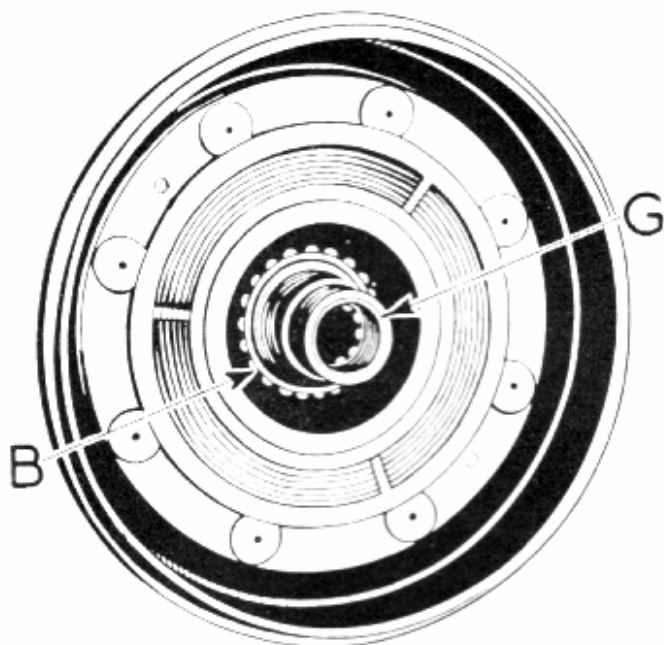

Fig. 4—Inner View of Hub Spindle
6. Centre punch mark the inner end of the hub spindle "G", Fig. 4, just above the same spline marked in operation 4. This permits easier indexing of the marked spline on the hub with the identified spline on the shaft, when reassembling.
ing end, binding on the end of the hub spindle "G" Fig. 4. Tight splines can be freed up by moving the hub back and forth on the shaft. It may be necessary to use a puller to remove the hub and the adjusting nut to force the hub back on the splines, in order to shear a burr or rough spot. An exceptional rough spot or tight splines may have to be dressed down with a 12" file wrapped in emery cloth.
The inner bearing cone can be freed up on the hub spindle by polishing the spindle with a strip of emery cloth 1½" wide. A rag should be wrapped around the outer wheel bearing "B" Fig. 4, to protect it from emery dust.